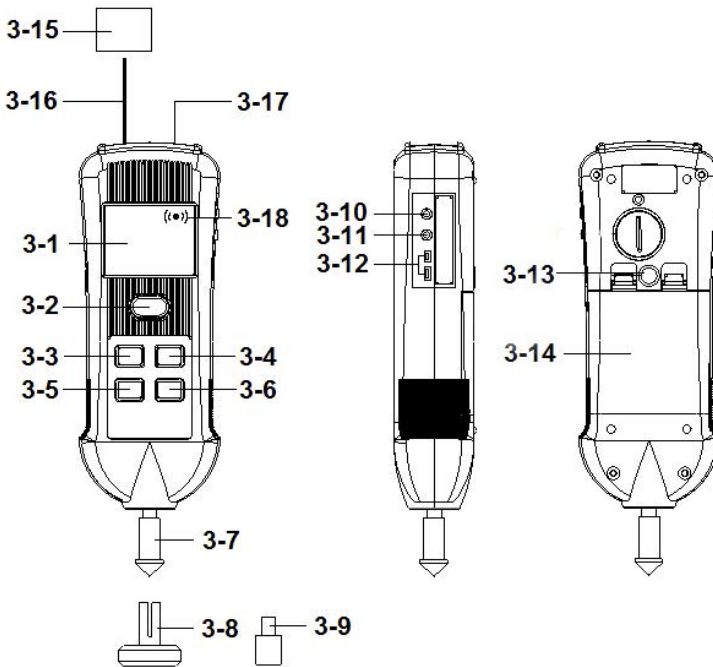

Fig. 1
- 1) Power On the meter by pressing and hold the " Power button " (3-2, Fig. 1) >1.5 second , the LCD will light.
- 2) Press the " Function button " (3-5, Fig. 1) once in sequence until to the " Photo RPM " function be selected, in the same time the " Photo light beam " (3-16, Fig. 1) will be generated.
- 3) Apply a " Reflecting mark " (3-15, Fig. 1) to the object being measured. and align the " Photo light beam " (3-16, Fig. 1) with the applied target. Verify that the " Monitor Indicator " (3-18, Fig. 1) lights when the target pass through the light beam.
- 4) when test value stable ,press hold button " (3-3, Fig. 1)" he test value will be keep in didplay .
- 1) Power On the meter by pressing and hold the " Power button " (3-2, Fig. 1) >1.5 seconds, the LCD will light.
- 2) Press the " Function button " (3-6, Fig. 1) once in sequence until to the " Contact RPM " function be selected.
- 3) Lightly pressing the " RPM Adapter " (3-9, Fig. 1) against the center hole on the hole of the measured rotating axis.
- 4) when test value stable (approx. 2 sec.) ,press hold button " (3-3, Fig. 1)" the test value will be keep in display .
Making the contact RPM measurement due to different kind measured rotating axis, it may changed the rubber for RPM adapter from " CONE " type to " FUNNEL" type (3-9, Fig. 1)
- 1) Power On the meter by pressing the " Power button " (3-2, Fig. 1) once, the LCD will light.
- 2) Press the " Function button " (3-5, Fig. 1) again and again in sequence until to the " Surface speed " function be selected. The Display will show the indicator of the " m/min ", " ft/min " or " in.min. ".
- 2) Change the " RPM Adapter " instead of the " Surface Speed Test Wheel " (3-8, Fig. 1)
- 2) Press the " Function button " (3-5, Fig. 1) once in sequence until to the " SCOPPE RPM " function be selected, in the same time the " Stroboscope flash light (red) indicator " (3-17, Fig. 1) will be Light.
- 1) Use the " ▲+ button " (3-3, Fig. 1) , " - button " (3-5, Fig. 1) to adjust the exact display value.
- 2) Press the " Function button " (3-6, Fig. 1) once in sequence until to the " TYPE k " function be selected.
- 3) type k probe inserted into the thermocouple probe terminal " thermocouple probe terminal " (3-12, Fig. 1).
- 2) Press the " Function button " (3-6, Fig. 1) once in sequence until to the " P t " function be selected.
- 3) pt 1000 Ω probes are connected to the pt 1000 Ω probe terminal " (3-11, Fig. 1).
- 1) Please IR Temp. adapter Seat cover leave, IR Temp. adapter "(3-21, Fig. 1)", Lock into the seat "(3-19, Fig. 1)"
- 2) IR Temp. function select slide switch"(3-20, Fig. 1)", please slide to IR place.
- 3) Power On the meter by pressing and hold the "power button " (3-2, Fig. 1) >1.5 seconds, the LCD will light.
- 4) Press the " Function button " (3-6, Fig. 1) once in sequence until to the " I r " function be selected.
- 5) Press and hold the IR thermometer test button (" Power button " (3-2, Fig. 1).
- 8) when test value stable then release the IR thermometer test button (" Power button " (3-2, Fig. 1).
- 1) The data record function records the maximum and minimum readings. Press the " REC Button " (3-4, Fig.1) once to start the Data Record function and there will be a " REC "Symbol indicator " will be light.
- a) Press the " REC Button " (3-4, Fig. 1) once, the " REC and MAX Symbol indicator will be light , and the maximum value will appear on the display.
- b) Press the " REC Button " (3-4, Fig. 1) again, the " REC and MIN " Symbol indicator will be light , and the minimum value will appear on the display.
- 2) take away the " Battery Cover " (3-14, Fig. 1) from the instrument and remove the battery.
The instrument has RS232 PC serial interface via a 3.5 mm terminal (3-10, Fig. 1).